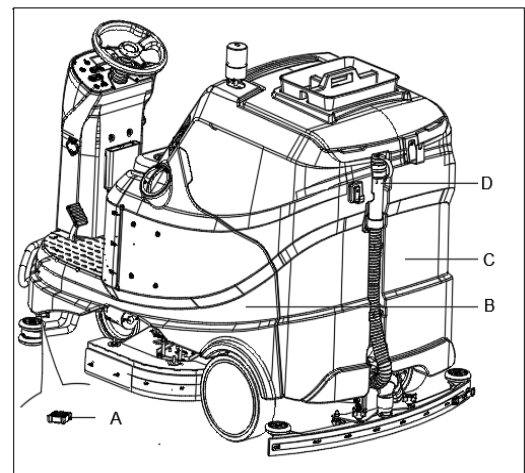

Figure 15
When the Multifunction display (47, Figure 3) show ERROR24 and the recovery tank full indicator (48, Figure 3) is turned on. It indicates the recovery tank (C, Figure 15) is full, the vacuum motor cannot longer dry the floor. Empty the recovery tank as following steps:
4. Empty the recovery water tank with the hose (D, Figure 15). Then, rinse the tank (C, Figure 15) with clean water.
1. Empty the solution tank with the outlet cover (A, Figure 15). After working, rinse the tank with clean water.
2. Empty the tanks (B and C, Figure 15) as shown in the previous paragraph.